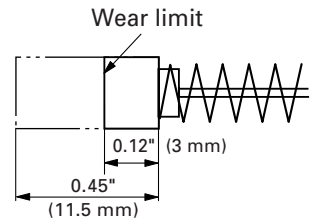

Fig. 20
4. Inspecting the carbon brushes (Fig. 20)